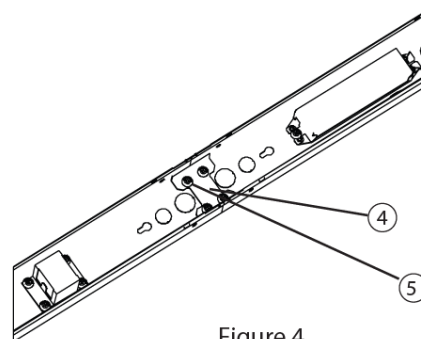

Figure 4
11. **Attach continuous row bracket (9)** as seen in Figure 4.